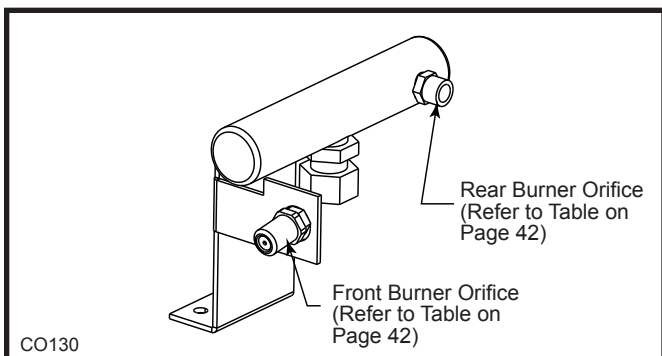

Fig. 78 Burner orifice replacement.
3. Using a 1/2" open end wrench remove the orifices. (Fig. 78)